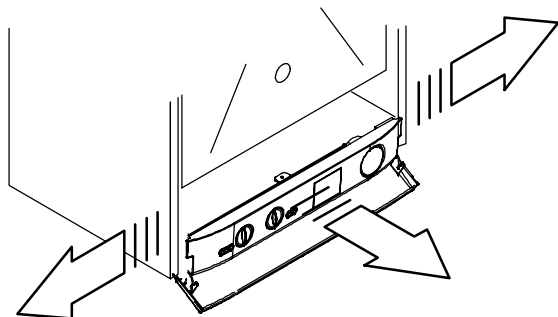

Fig. 4
- 4 Move the lower part of the side panels as indicated in Fig. 4 and pull the control panel. When completely pulled out, the panel can rotate 45° downwards to facilitate the service operations on the internal parts.